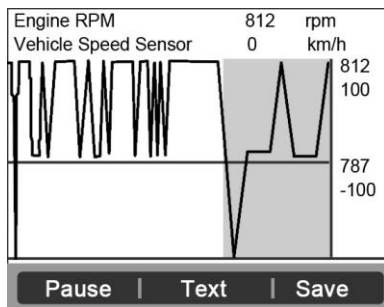

Figure 6.13
- If the “**Graphics**” on the bottom appears when a PID is highlighted, graphic information is available. Select **Graphics** to view graph (Figure 6.13). PID name, current value, maximum and minimum values are displayed on the screen.